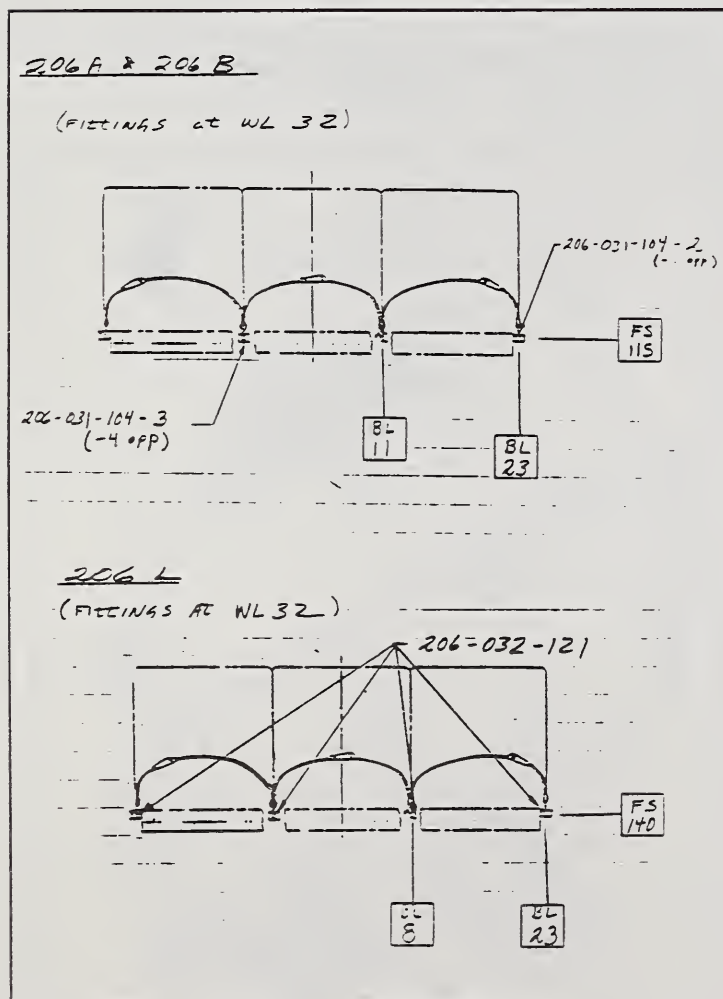
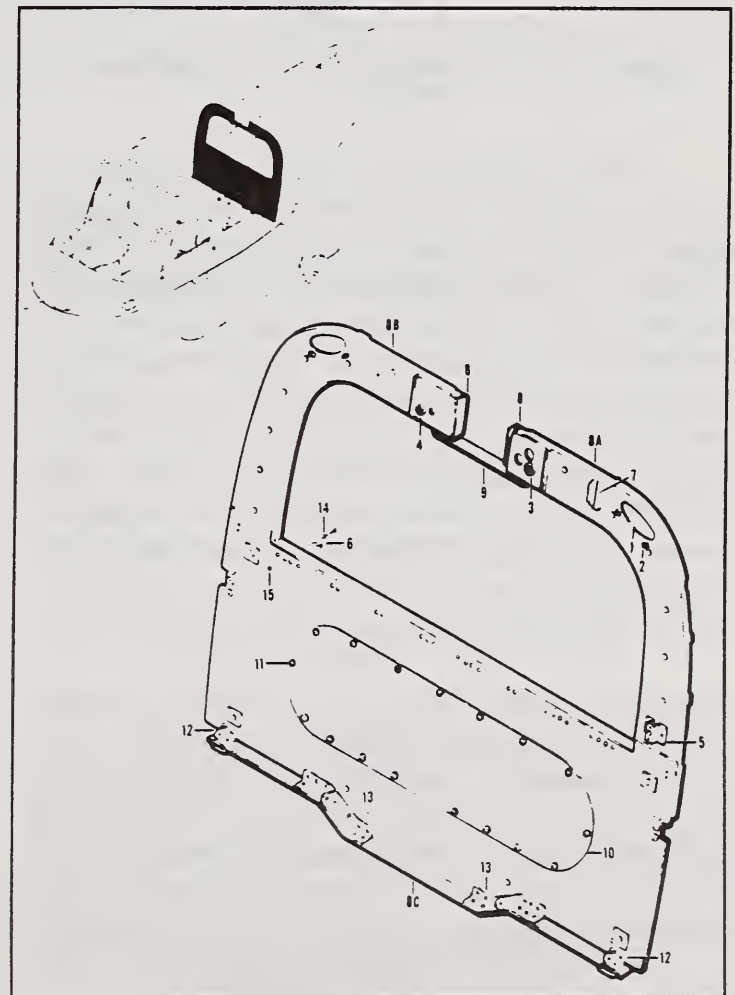
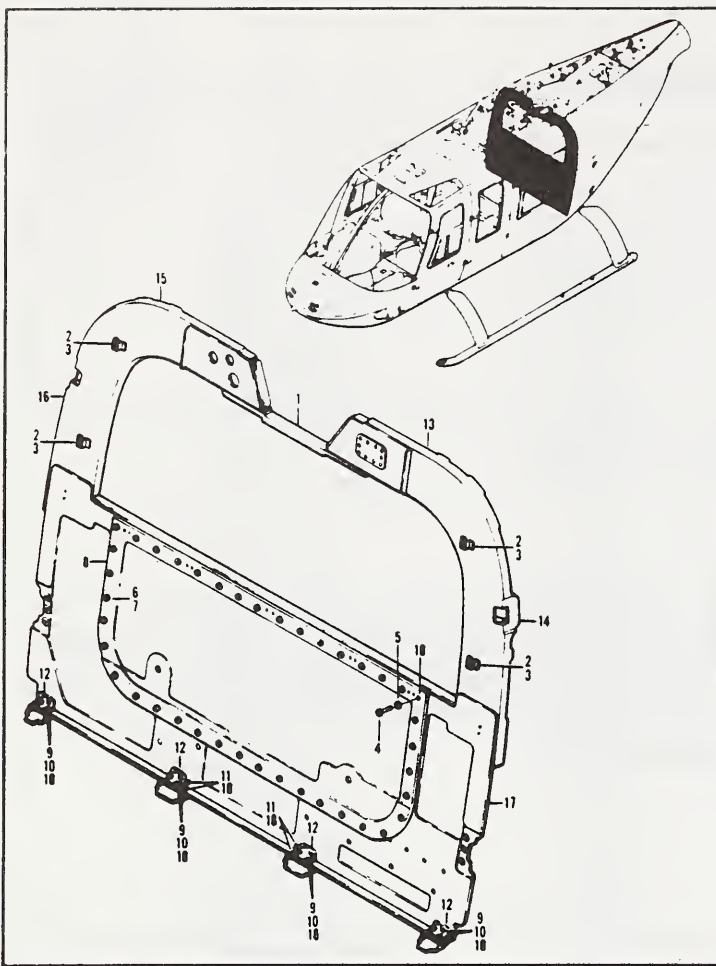

Figure 28. Bell 206 seat belt attach fittings.
Figure 29. Bell 206B passenger seat panel installation.
Figure 30. Bell 206L passenger seat back bulkhead installation.
Per correspondence from Bell Helicopter Textron, the seat belt attach fittings are structural tie-down points. Load capability of these points was not provided by Bell Helicopter. Figure 28 shows station numbers and lateral and vertical location of these fittings for both the 206B and 206L ships. The fittings are designated Bell 206-031-104-1, -2 (LH outboard, RH outboard) and -3, -4 (LH inboard, RH inboard), respectively, for the 206B (see item 12 and 13 in figure 29), and Bell 206-032-121 fittings for the 206L series (see item 12 in figure 30).